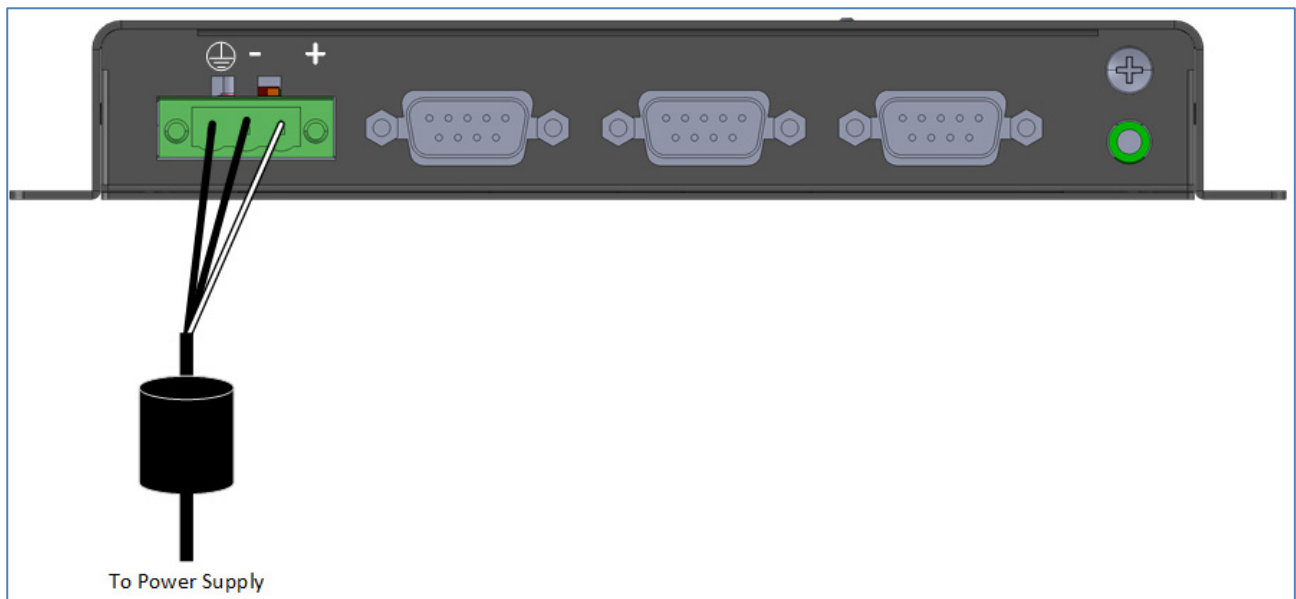

Figure 2: CommBox power supply wiring
- The CommBox comes with the power supply wired to the unit. See Figure 2.